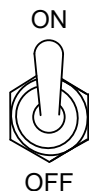

Figure 40. Control Power Switch (ON)
3. Place the **Control Power switch** (Figure 40) in the **ON** position.